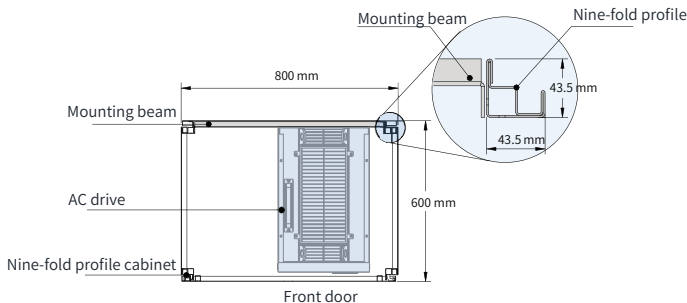

Figure 2-13 Top view of T10 to T12 drive cabinet
1	Install the mounting beam in the nine fold profile cabinet, as shown in Figure 2-13.
1. A nine-fold profile cabinet (PS cabinet) is recommended for installing the AC drive. The cross sectional area of the nine-fold profile is shown in Figure 2-13.